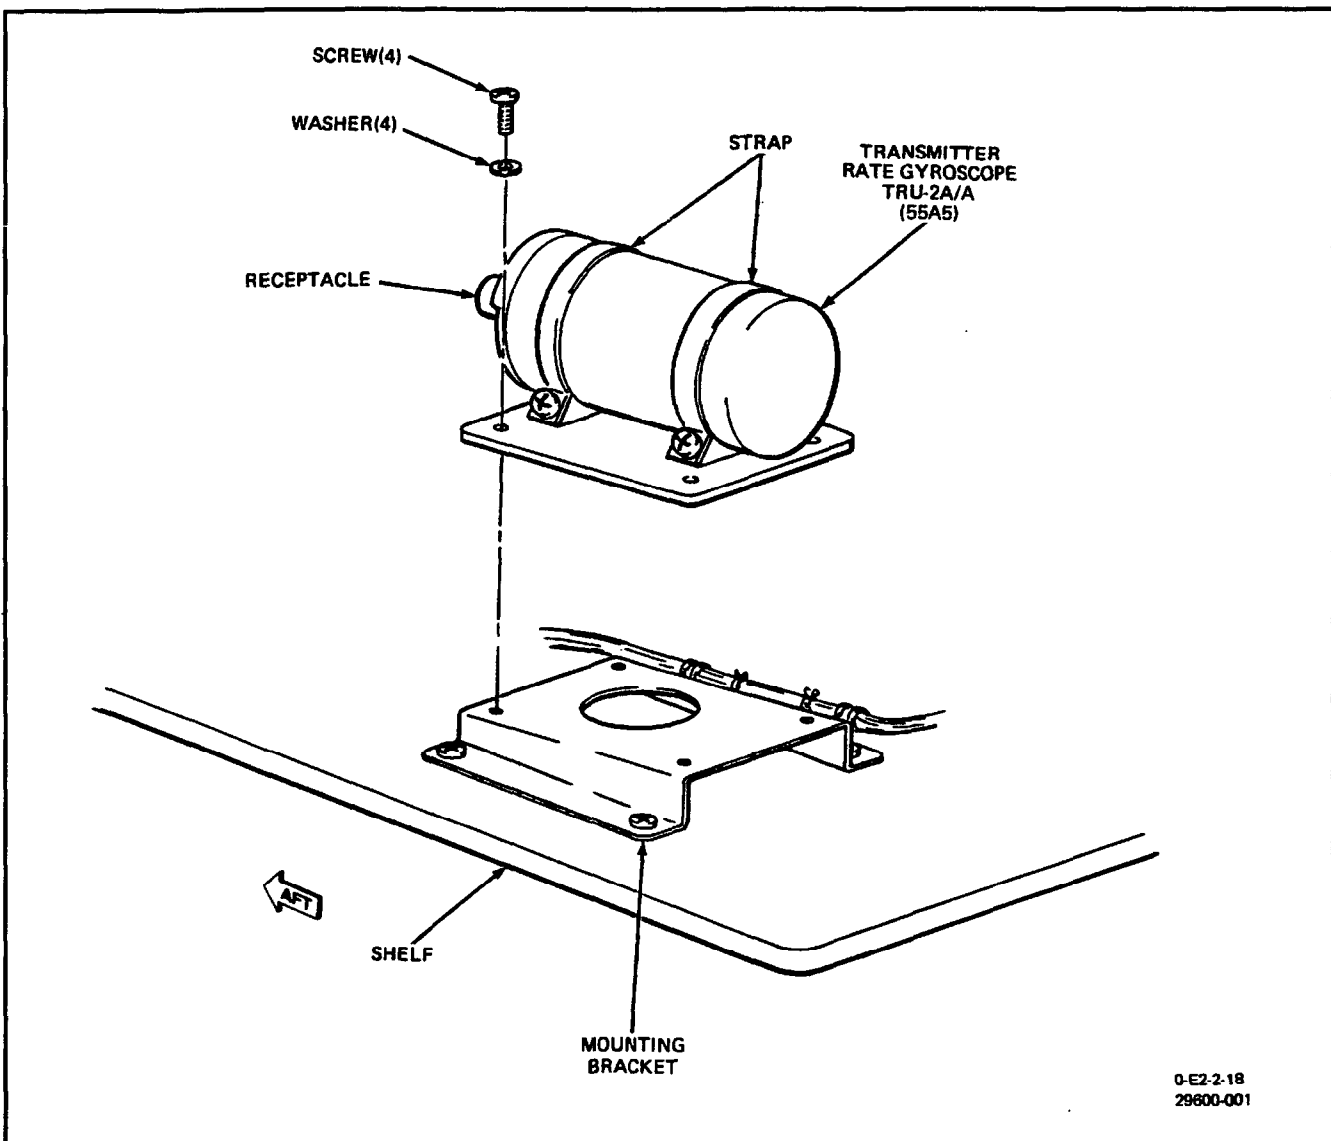

Figure 1. Removal and Installation of Transmitter Rate Gyroscope TRU-2A/A
**3. REMOVAL.** (Figure 1.)
4. **INSTALLATION.** (Figure 1.)